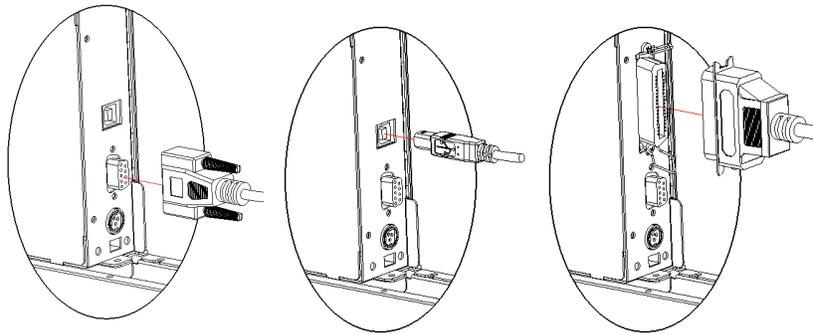

Fig.4.5-1 Serial connection Fig.4.5-2 USB cable connection Fig.4.5-3 Parallel connection
2. Connect the series interface cable, parallel interface cable and USB cable into a relevant interface of the printer, and fix them with screws or spanner springs (see figure 4.5-1,4.6-2,4.7-3);